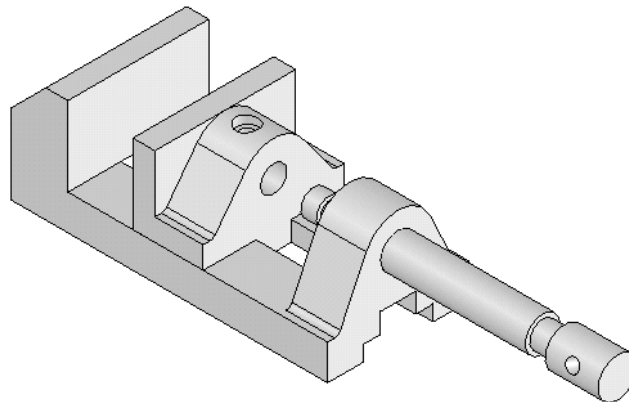

Figure 12-63 The **Concentric** mate applied between the Jaw Screw and the Vice Body
7. Release the left mouse button at this location; the **Mate** pop-up toolbar is displayed and the **Concentric** button is chosen by default, which suggests that the **Concentric** mate is the most appropriate mate to be applied. Choose the **Add/Finish Mate** button from the **Mate** pop-up toolbar. Figure 12-63 shows the Jaw Screw assembled to the Vice Body.